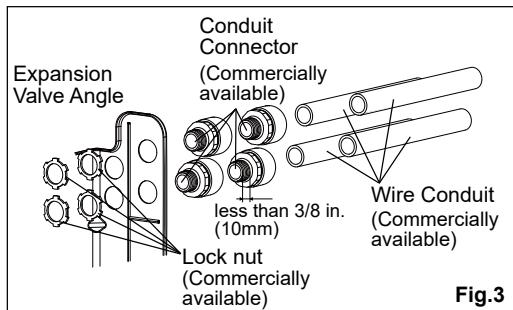

Fig.3
(3) Attach the Conduit Connector to Expansion Valve Angle with lock nut. (Fig.3)